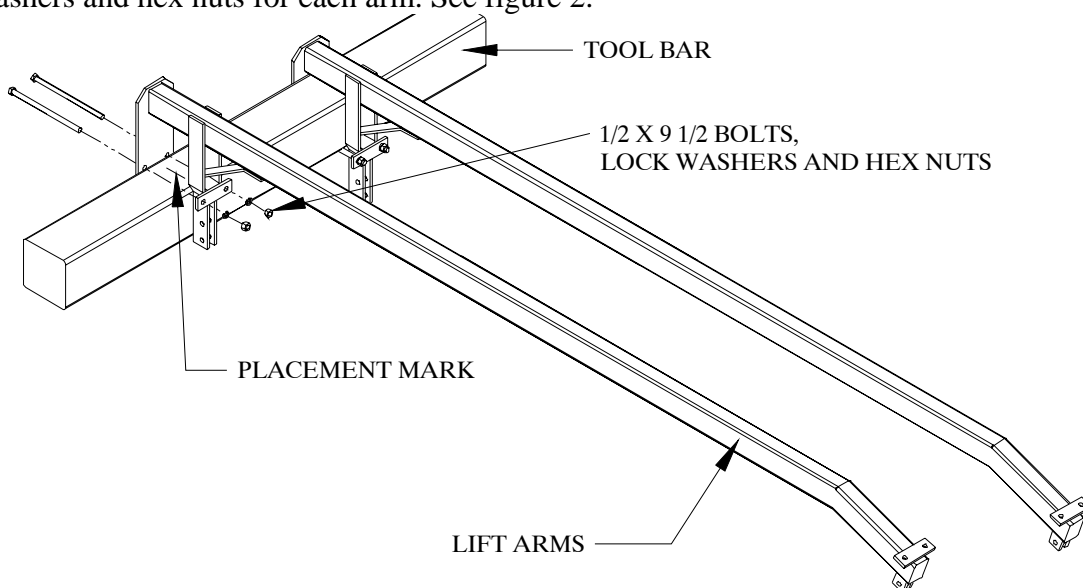

Figure2
(Refer to Figure 2)
2. Attach a lift arm to the toolbar at each on of these marks. Use two 1/2" x 9 1/2" bolts, lock washers and hex nuts for each arm. See figure 2.